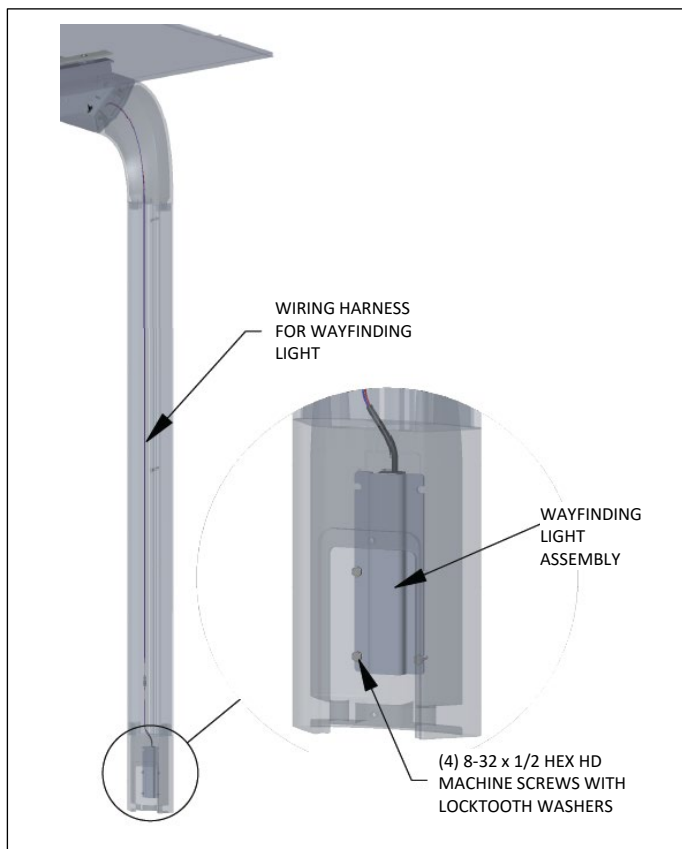
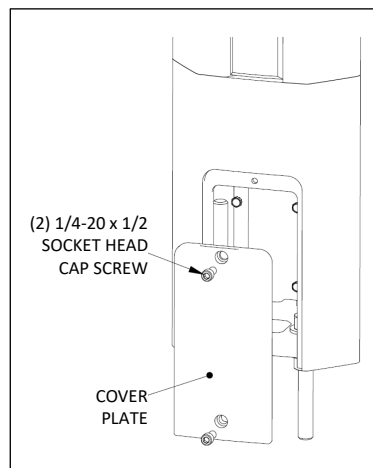

Fig. F7 – Install wayfinding lights
Fig. F8 – Install wayfinding light cover plate
6. Wayfinding lights: Run wiring harness up through front vertical post. On the front left side of the unit, remove the access cover on the front horizontal beam. Make connection from the wiring harness to the quick disconnect located in the beam. Secure LED to front vertical post, using (4) 8-32 x 1/2" hex head machine screws with external tooth lock washer, located in hardware pack #62810, see Fig. F7. Before final tightening of screws, ensure only the lens from the light is showing through the front opening. Repeat for opposite side. Install cover plates, using (2) 1/4-20 x 1/2" socket head cap screws, located in hardware pack #62607, see Fig. F8. Make connection to pre-installed wiring harness labeled "wayfinding light".